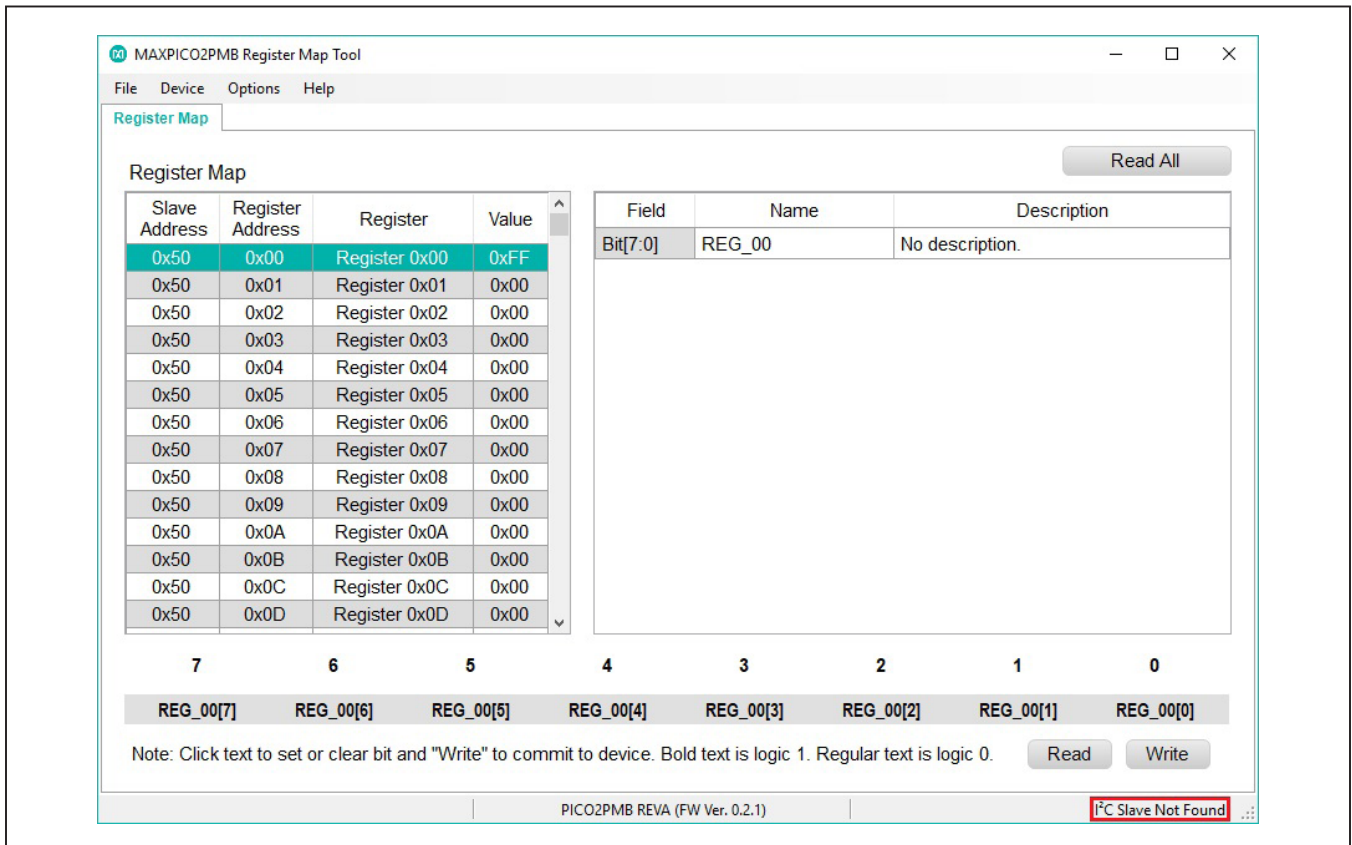

Figure 1. The Status of the GUI Shows I²C Slave Not Found Ready for Further Evaluations
- 7) If connection between the PC and the adapter board is successfully established, the status bar at the bottom displays **I²C Slave Not Found** (see Figure 1).